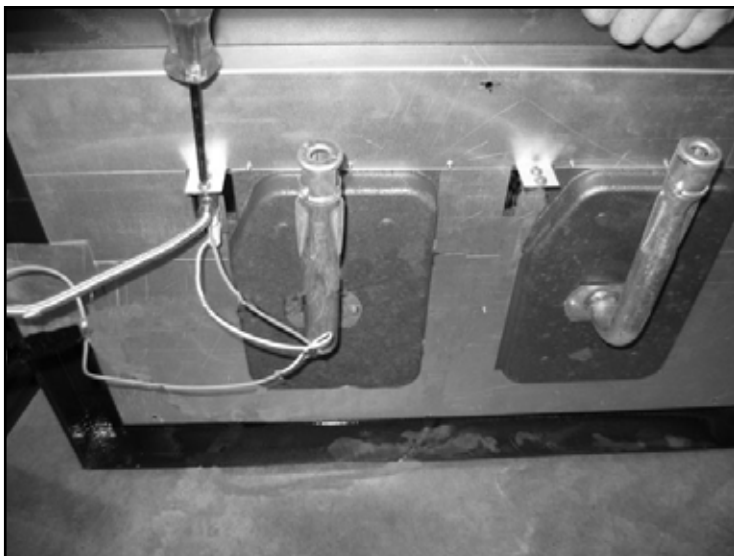

Figure 19: Adjust shutters and remove pilot.
5. Open primary air shutters fully. Remove the pilot from the burner. (Figure 19)